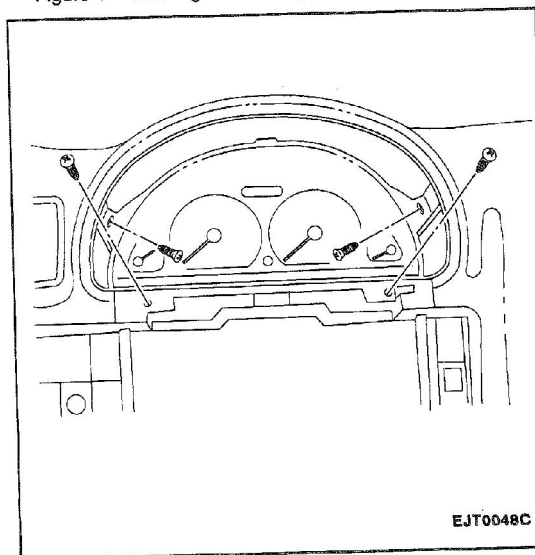

Figure 8—Instrument Cluster Assembly Bolts
5. Four screws and instrument cluster assembly from instrument panel (Figure 8).
3. Four screws and instrument cluster bezel from vehicle (Figure 8).
4. Four screws and instrument cluster assembly from instrument panel (Figure 8).